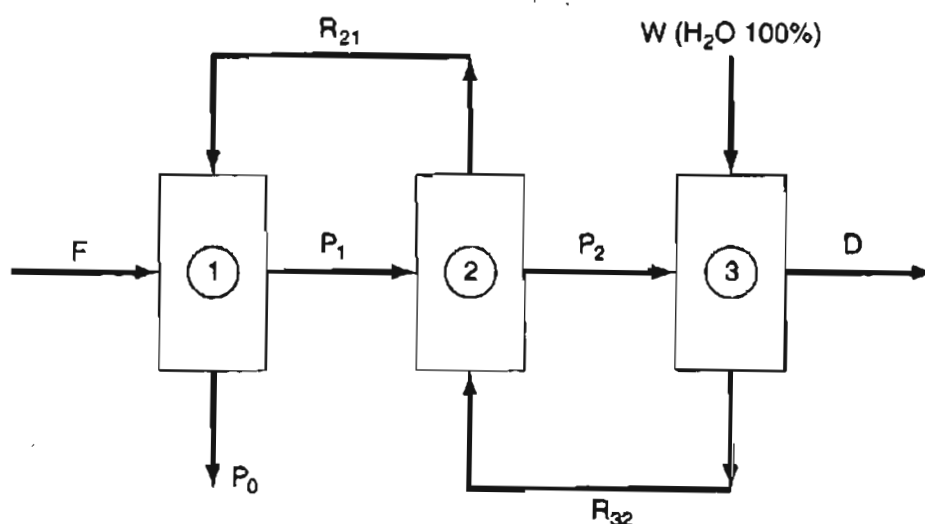

Figure P12.9
- *12.9** A plating plant has a waste stream containing zinc and nickel in quantities in excess of that allowed to be discharged into the sewer. The proposed process to be used as a first step in reducing the concentration of Zn and Ni is shown in Figure P12.9. Each stream contains water. The concentrations of several of the streams are listed in the table. What is the flow (in L/hr) of the recycle stream R_{32} if the feed is 1 L/hr?